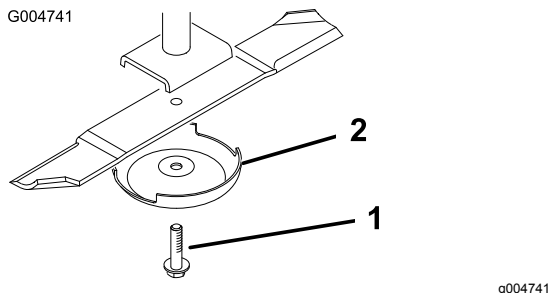

Figure 116
3. Remove the blade bolt, anti-scalp cup, and blade from the spindle shaft (Figure 116).